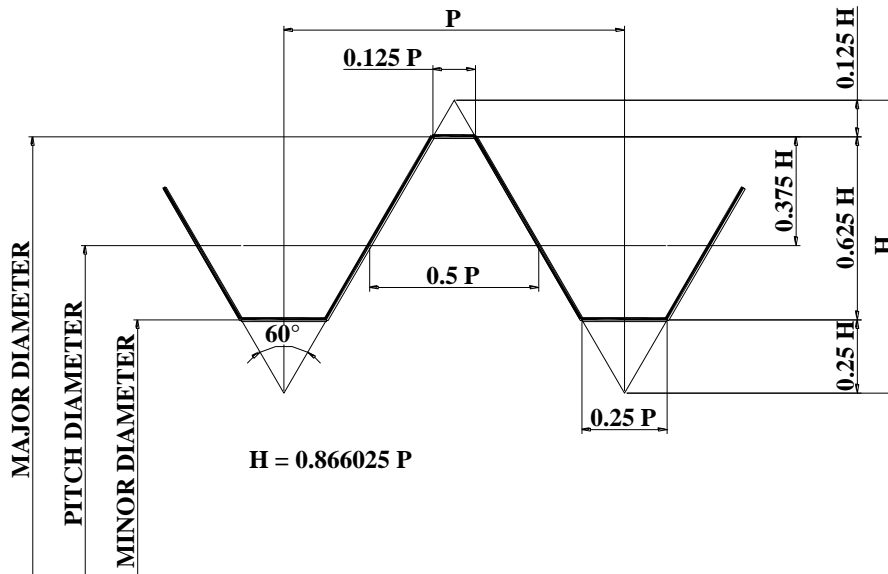

FIGURE T6.1: METRIC THREAD
1. DRAW THE METRIC THREAD, AS SHOWN IN FIGURE T6.1, TAKING SUITABLE VALUE OF PITCH.